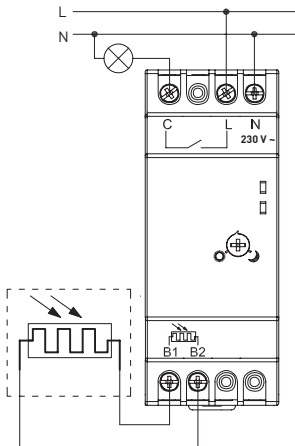

Fig. 3 – Wiring diagram for twilight relay DIN-1 (FR)
3. Follow the wiring diagram (Figure 3) to connect the wires.
4. Install the sensor in a location exposed to direct sunlight, but away from any additional light sources. Follow Figure 3 to connect the sensor to the relay.